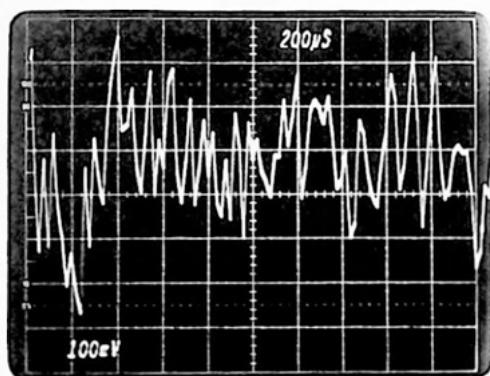

Figure 6-15
Step 29 — Execute the assembly language display routine as before by entering the command, EXEC 8000 (or 4000). Observe the oscilloscope display. You should observe a display of the Color Computer's random number generator similar to that pictured in Fig. 6-15.